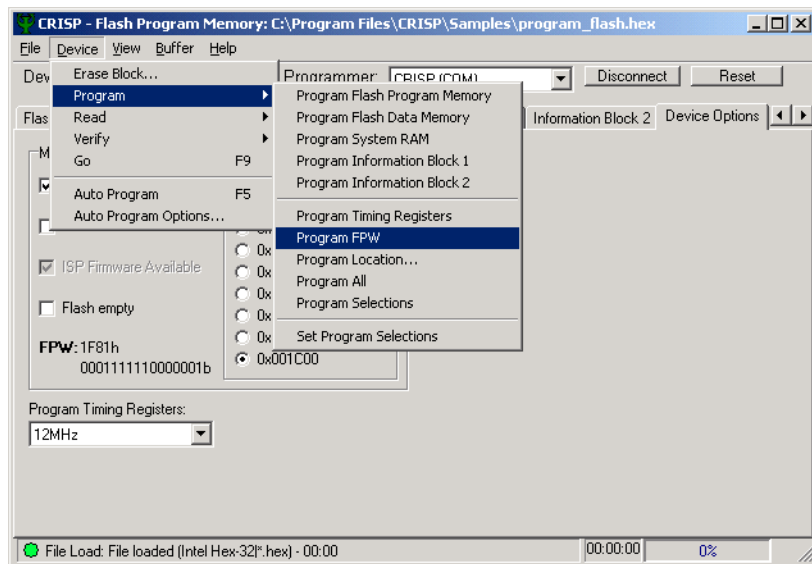

Figure 6-8. Selecting the Program FPW Command
4. **Initiate Programming the Protection Word.** When the desired settings have been selected, programming can be initiated by selecting the Device -> Program -> Program FPW command, as shown in Figure 6-8.